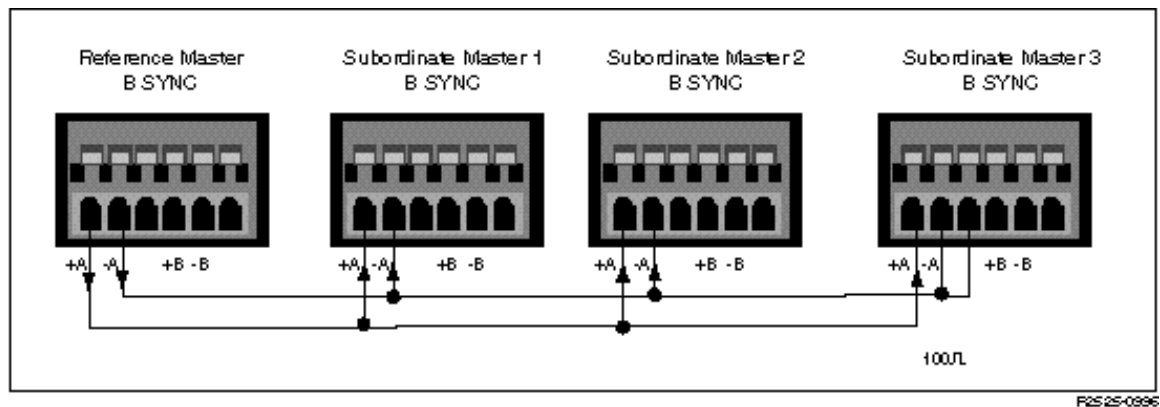
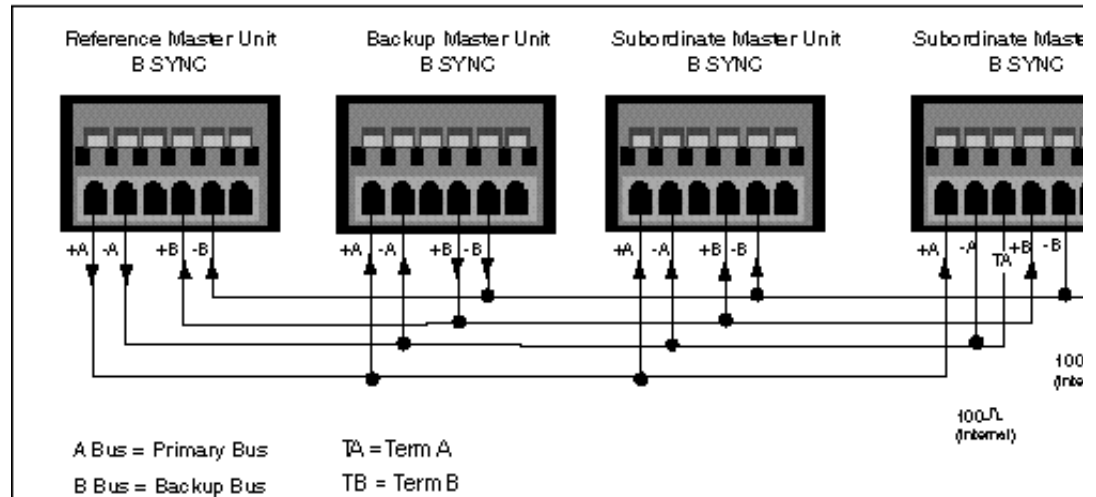

Figure 2-14
Figure 2-15
The equipment should be physically located as shown in Figure 2-14. The Reference and backup masters should be the first units in the chain. Figure 2-14 illustrates the connections needed for Burst synchronization at a hub site where the A bus is used. The Reference master is the burst sync signal source, providing it for the three Subordinate master units. If the distance between the Reference master and the last Subordinate master is greater than 100 ft, the burst sync bus(es) should be terminated at the last subordinate master. The termination is done with a 100 ohm resistor (internal to AirLink) as shown in Figure 2-15. You should ensure that that the Termination is at one end of the daisy chain and the Burst sync source is at the opposite end. Care should also be taken not to use multiple terminations.
4. **Wire the units as shown in Figure 2-14.**
5. **Wire the units as shown in Figure 2-15.**
The AirLink Pro 64S uses a burst synchronization signal that is compatible with the signal used in the AirLink One S-band 64kbps, 128kbps, and 256kbps models and AirLink One L-band models. A hub configuration may contain both AirLink Pro and AirLink One units. AirLink One units, however, *cannot* take advantage of the backup burst synchronization feature. For the burst synchronization signal, the AirLink One models use a different connector and cable than those used on the AirLink Pro 64S. The following section describes the procedure to successfully connect AirLink Pro and AirLink One units for burst synchronization in a hub configuration. You will need an RS232 DB25 (Female) to BNC (Male) converter, RS232 DB25 (Male) to RS422 terminal block converter (see Figure 2-14) and a pair of single wires (converters can be ordered from Cylink distributors).
3. **Connect one end of a single wire to the designated "R+" terminal of the terminal block and the other end to the AirLink Pro unit's "+A" terminal. Connect one end of a second single wire to the designated "R-" terminal of the terminal block and the other end to the AirLink Pro unit's "-A" terminal (see Figure 2-15).**